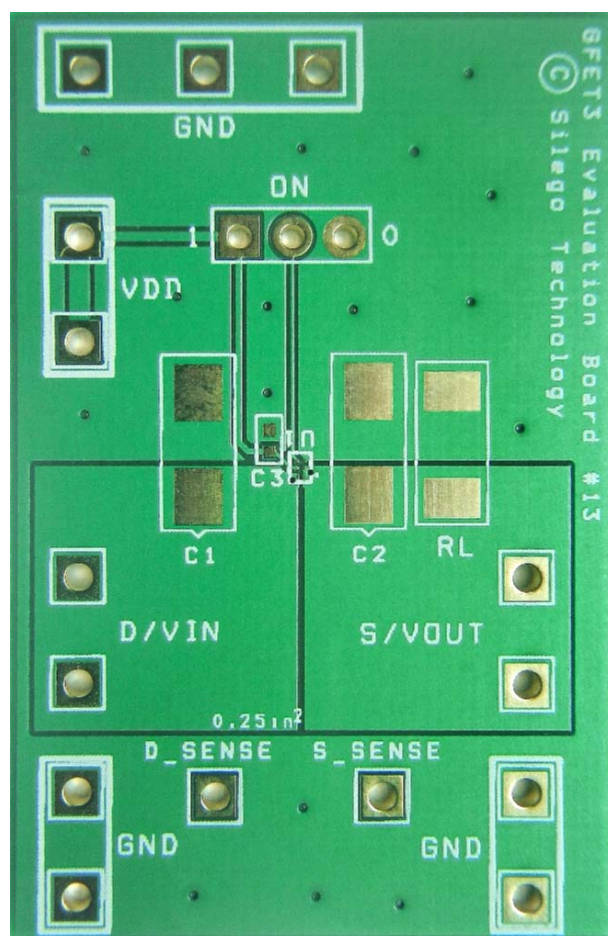

Figure 28. SLG59M1746C Evaluation Board
2. Since the VIN and VOUT pins dissipate most of the heat generated during high-load current operation, it is highly recommended to make power traces as short, direct, and wide as possible. A good practice is to make power traces with absolute minimum widths of 15 mils (0.381 mm) per Ampere. A representative layout, shown in Figure 28, illustrates proper techniques for heat to transfer as efficiently as possible out of the device;
A GFET3 Evaluation Board for SLG59M1746C is designed according to the statements above and is illustrated on Figure 28. Please note that evaluation board has D\_Sense and S\_Sense pads. They cannot carry high currents and dedicated only for  $R_{DS(ON)}$  evaluation.